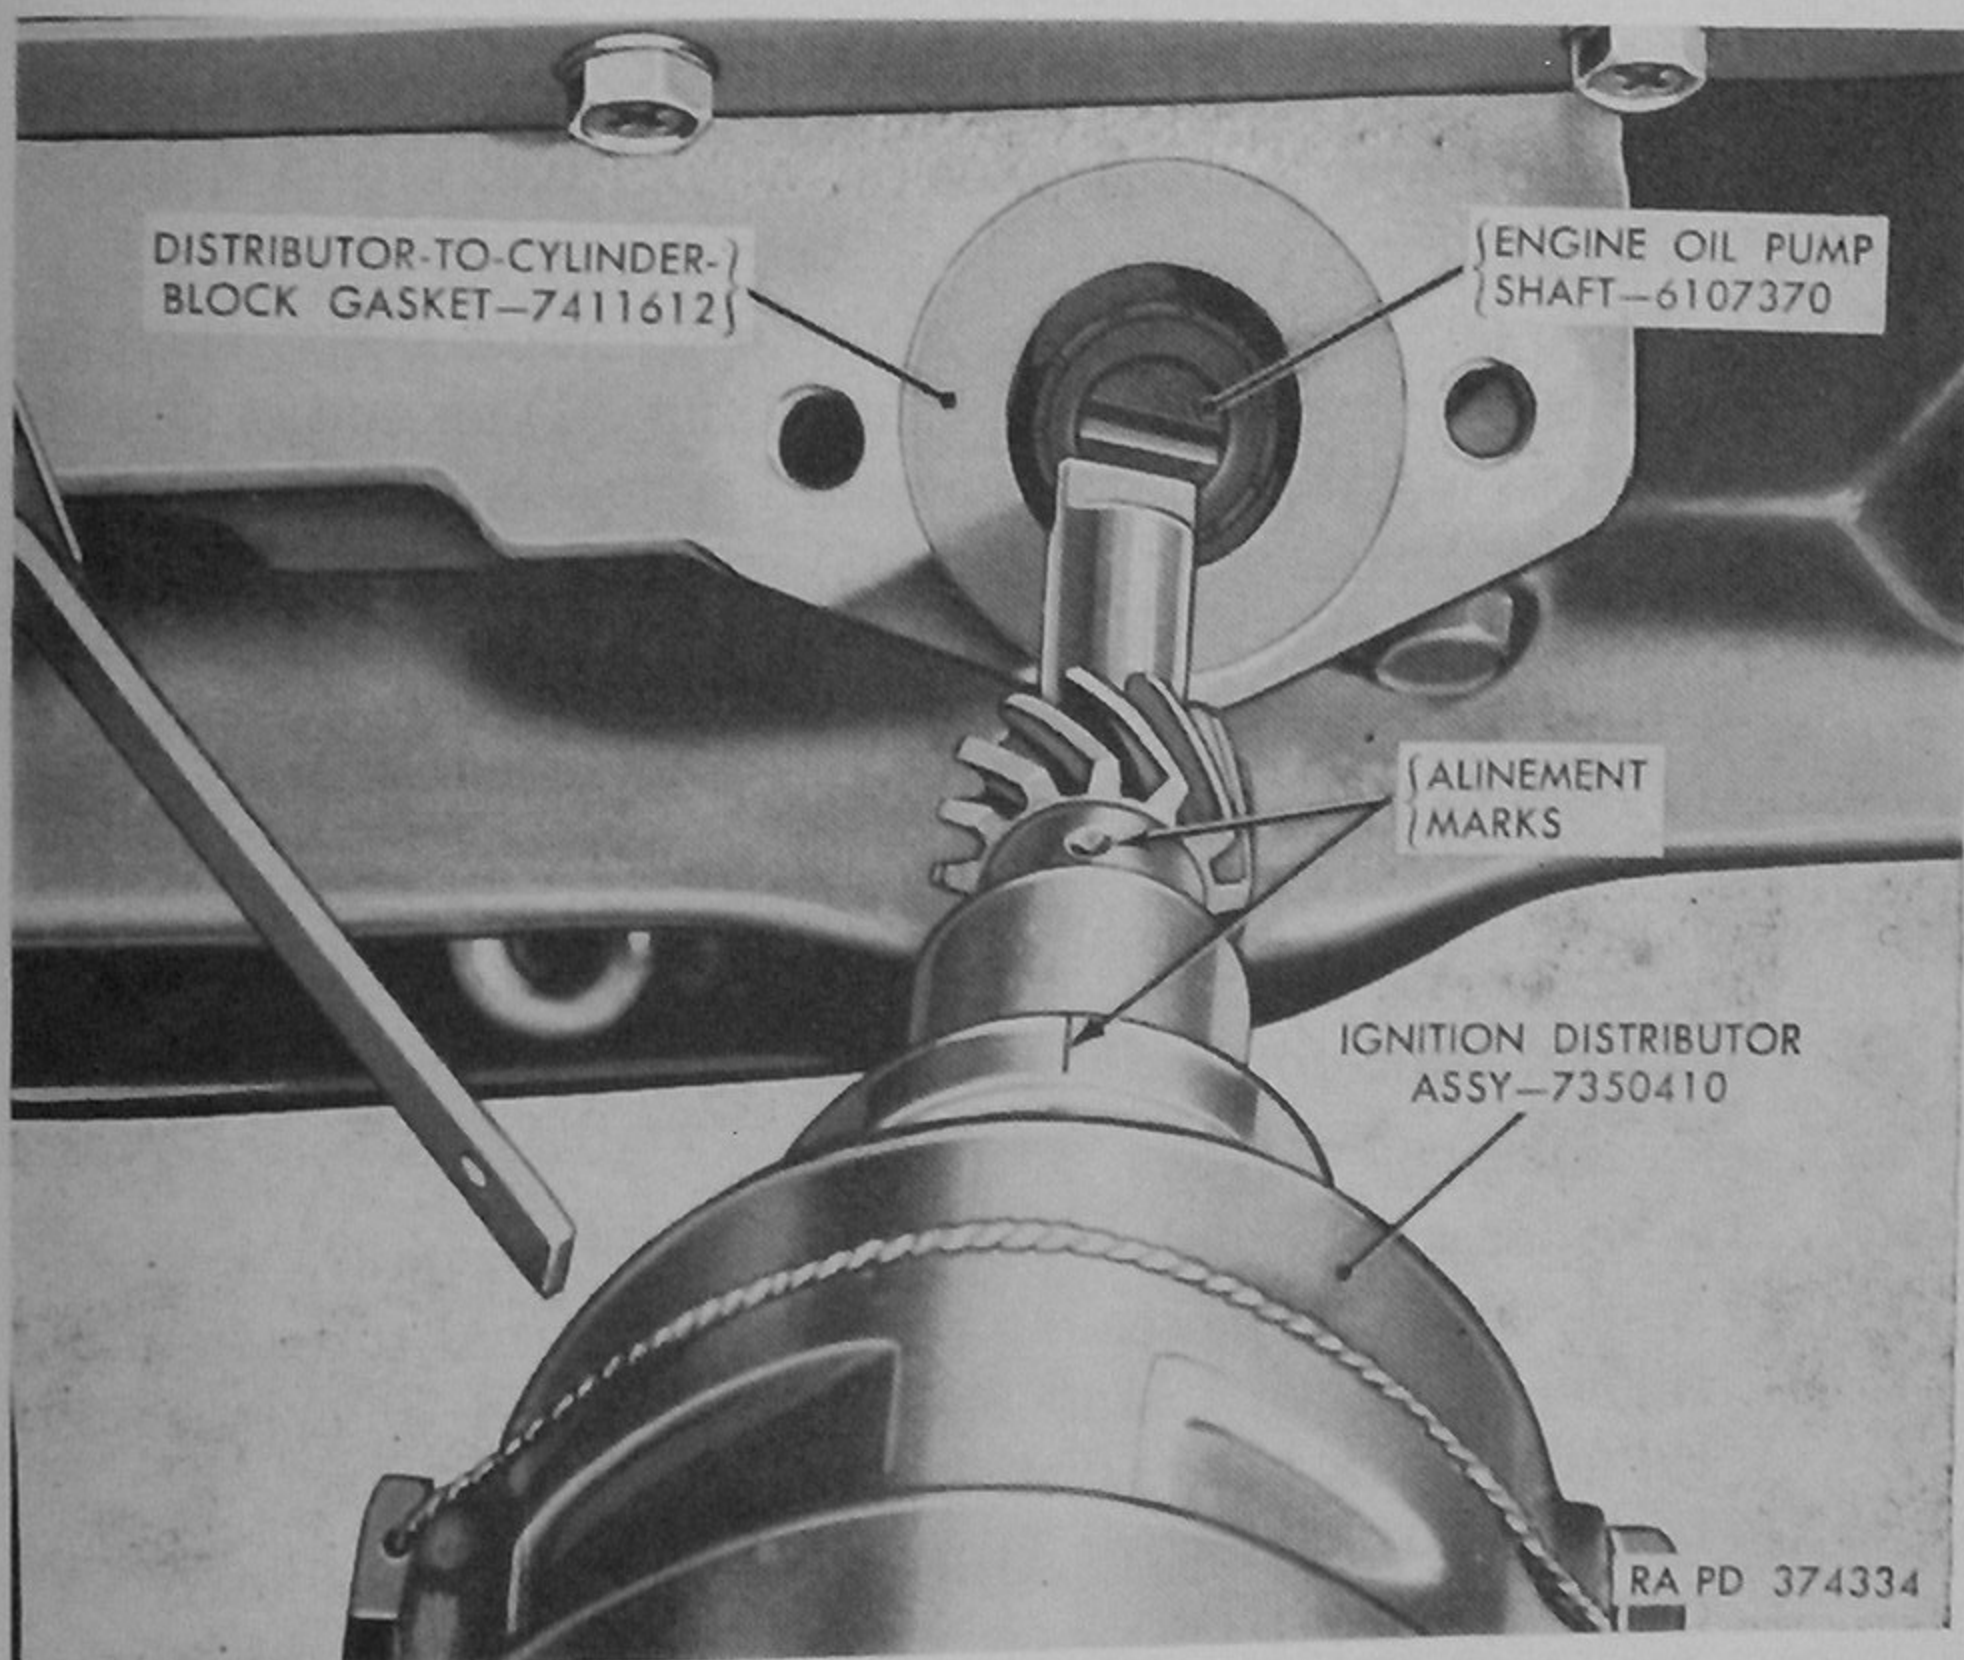

Figure 176. Installing ignition distributor assembly.
*c.* Turn distributor shaft as necessary to aline mark on gear hub with mark on distributor body (fig. 176); then insert distributor assembly into opening in engine cylinder block so gear on distributor shaft engages camshaft gear (fig. 176).